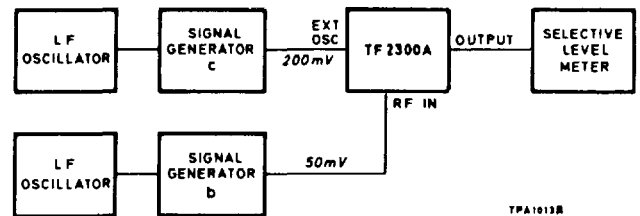

Fig. 4-5. F.M. distortion measurement
- (1) Set up the equipment as shown in Fig. 4-5. Adjust c to give a c. w. output of 200 mV at any convenient frequency  $F_c$ . Adjust b to give a c. w. output of 50 mV at frequency ( $F_c - 1.5$  MHz).
- (2) On the modulation meter set the Function switch to TUNE and the oscillator RANGE switch to EXT. Adjust the frequency of c for maximum reading on the TF 2300A meter and adjust the TF 2300A LEVEL control for a reading within the black arc.